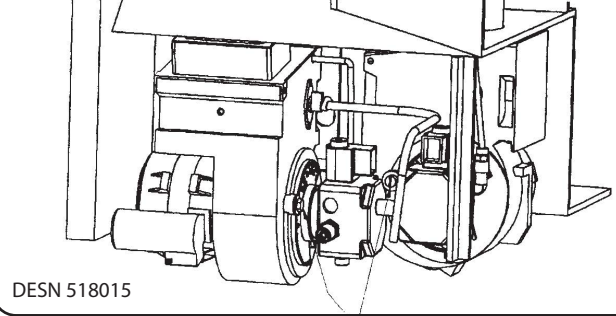
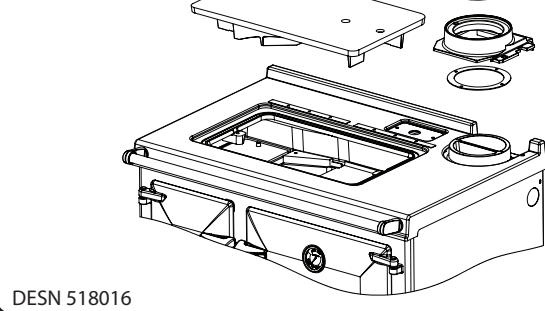

Fig. 9.7
Fig. 9.8
13. Ensure both pumps are purged of air. Check pump pressure with a calibrated pressure gauge and adjust it as necessary. (See Fig. 9.7 & Fig. 9.8) For further information refer to 100, 80 and 60 specification on page 18.